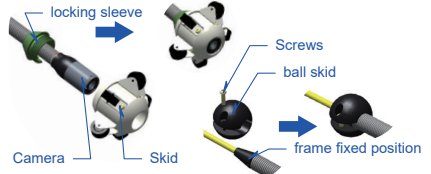

Figure 16. 134 Roller skid
2) Install the 134 skid and 60 ball skid. (Figure 16)